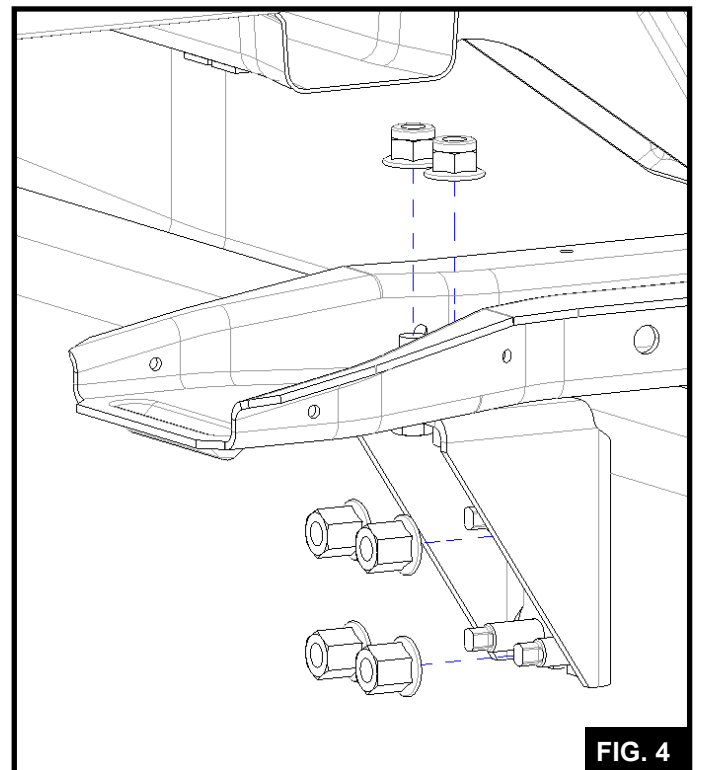

FIG. 4
Remove the (4) bolts and (4) nuts securing the crossmember to the frame of the truck (**FIG.4**). In some configurations these bolts pass through a crossmember bracket. In these cases, retain the fasteners for reuse in steps 7.4 and 7.5.
NOTE: It may be necessary to remove the (4) nuts securing the crossmember to the frame mounts to remove the crossmember assembly. (Two nuts on each side) (**FIG.4**)